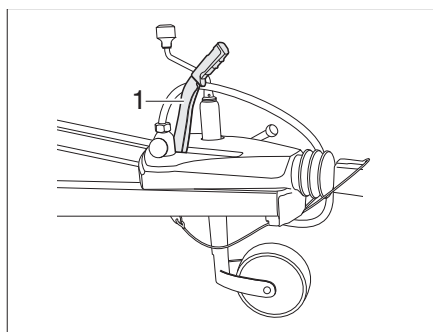

Fig. 14 Handbrake
- To release, pull the brake lever (Fig. 14,1) up and then lower it.